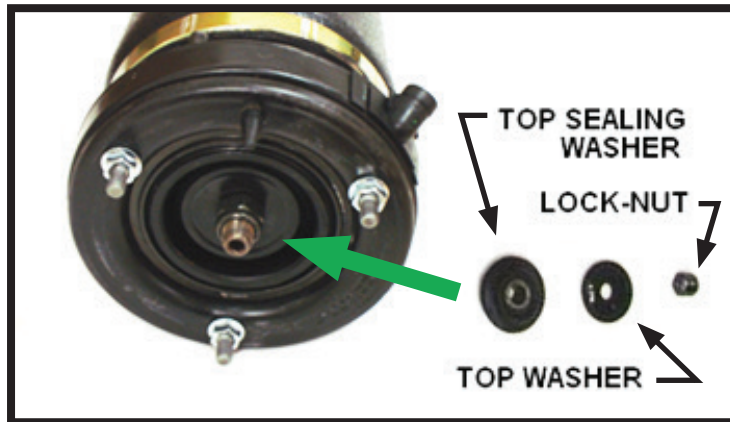

FIGURE 7
1. REMOVE THE M14X1.5MM LOCK-NUT, TOP WASHER AND TOP SEALING WASHER FROM THE TOP OF THE SHOCK, DISCARD TOP SEALING WASHER. (FIGURE 7)